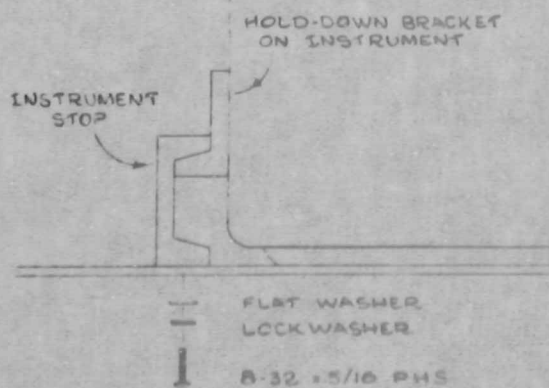

FIG. 5
- () 9. Place the instrument stop (from kit) on the cradle so that it meshes with the hold-down bracket on the instrument (see Fig. 5). If necessary, the hold-down bracket may be adjusted up or down.
- () 12. Mount the stop, using the 8-32 x 5/16 PHS screws, flat washers and lockwashers from the kit (see Fig. 5).